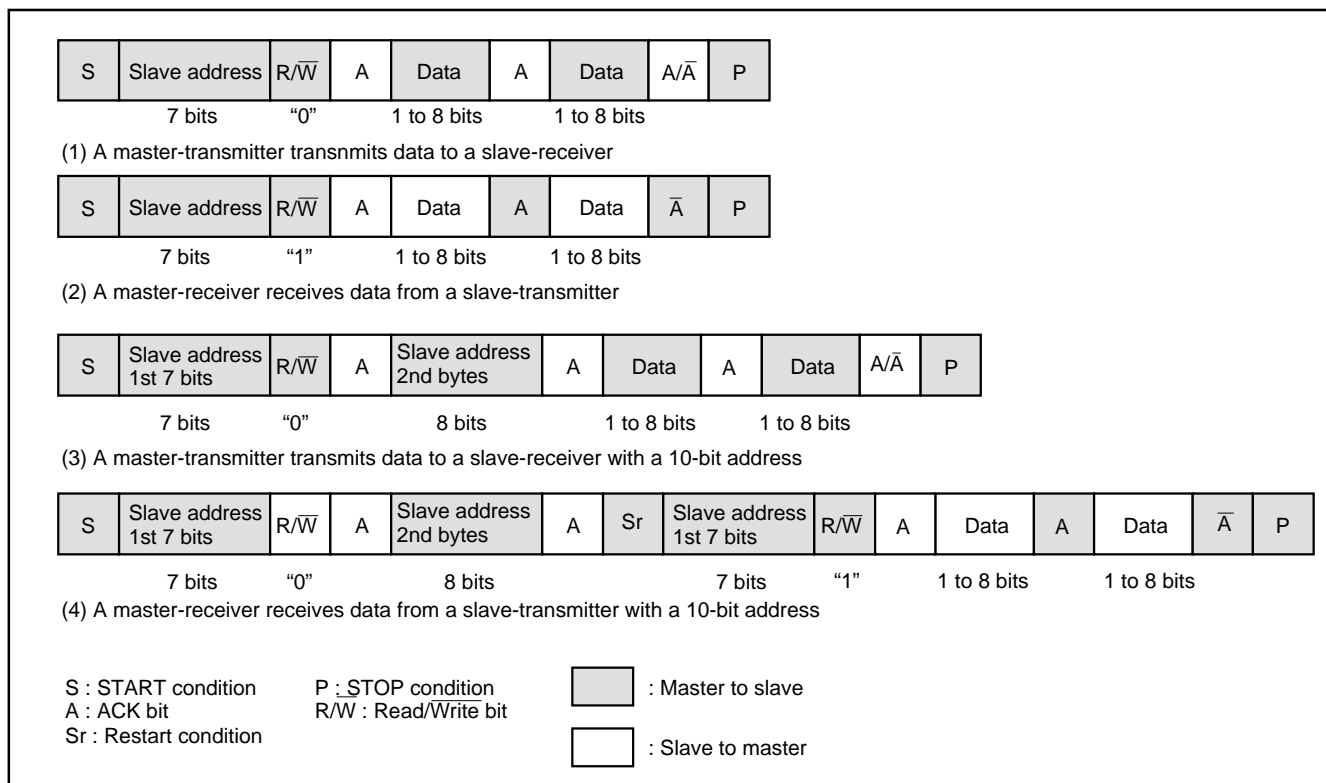

Fig. 35 Address data communication format
To adapt the 7-bit addressing format, set the 10BIT SAD bit of the I2C control register (address 002E16) to “0.” The first 7-bit address data transmitted from the master is compared with the high-order 7-bit slave address stored in the I2C address register (address 002C16). At the time of this comparison, address comparison of the RWB bit of the I2C address register (address 002C16) is not performed. For the data transmission format when the 7-bit addressing format is selected, refer to Figure 35, (1) and (2).
When the first-byte address data agree with the slave address, the AAS bit of the I2C status register (address 002D16) is set to “1.” After the second-byte address data is stored into the I2C data shift register (address 002B16), perform an address comparison between the second-byte data and the slave address by software. When the address data of the 2 bytes agree with the slave address, set the RWB bit of the I2C address register (address 002C16) to “1” by software. This processing can make the 7-bit slave address and R/W data agree, which are received after a RESTART condition is detected, with the value of the I2C address register (address 002C16). For the data transmission format when the 10-bit addressing format is selected, refer to Figure 35, (3) and (4).